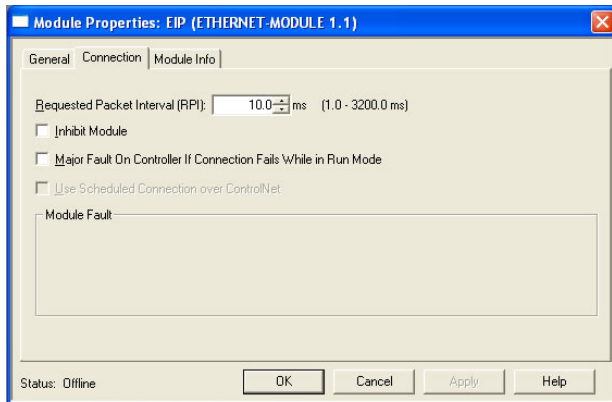

Figure 84: Module Properties Connection Tab
- 5) You should now see the new module (named “ETHERNET-MODULE Mitsubishi_Inverter”) in the 1756-ENBT/A branch under the I/O Configuration in the controller organizer view. Right click on this new module, choose “Properties”, and select the Connection tab. Refer to Figure 84.